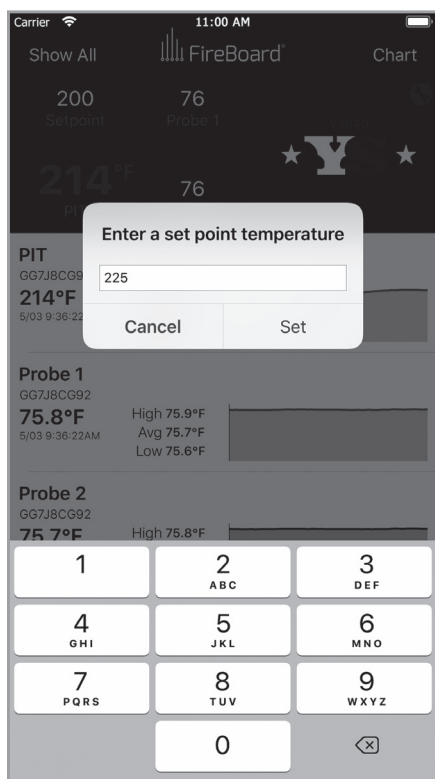

FIG 13
- You can change the pit's setpoint by tapping on the setpoint in the grey banner (**Figure 13**). Simply enter your new desired setpoint and tap the "Set" button. Please note that changes to the setpoint take a few seconds to take effect. Please be patient for them to be reflected in the cooker and in the app's dashboard.